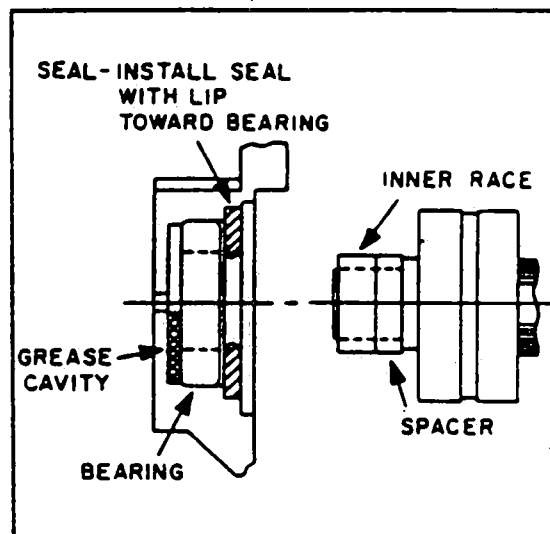

Figure 11-31. Slip Ring End Bearing Assembly
e. Install the slip ring end bearing and oil seal. Make sure the lip of the oil seal is toward the bearing. Correct assembly of bearing, seal, inner race and spacer is shown in Figure 11-31.